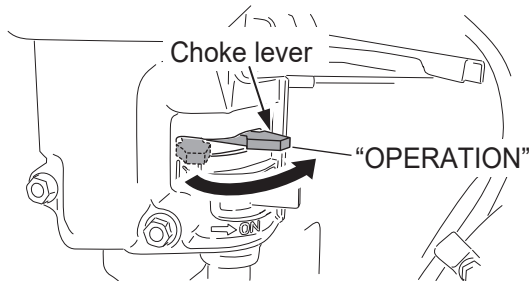

Fig.23
10. After engine has started, while listening to engine sound, slowly return the choke lever to OPERATION position. (Fig.23)